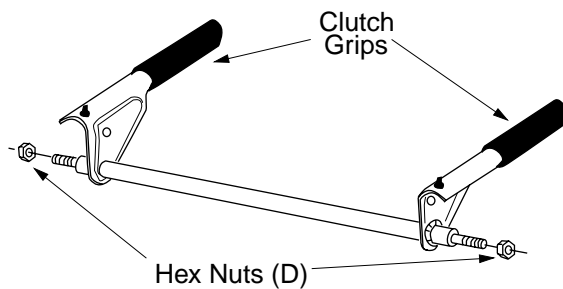

Figure 6
2. Place the clutch grips in position on the rod so the flat side of the clutch grips are against the pivot rod cover. Thread hex nuts (D) onto each end of the rod. Tighten nuts allowing the clutch grips to move freely on pivot rod. See Figure 6.